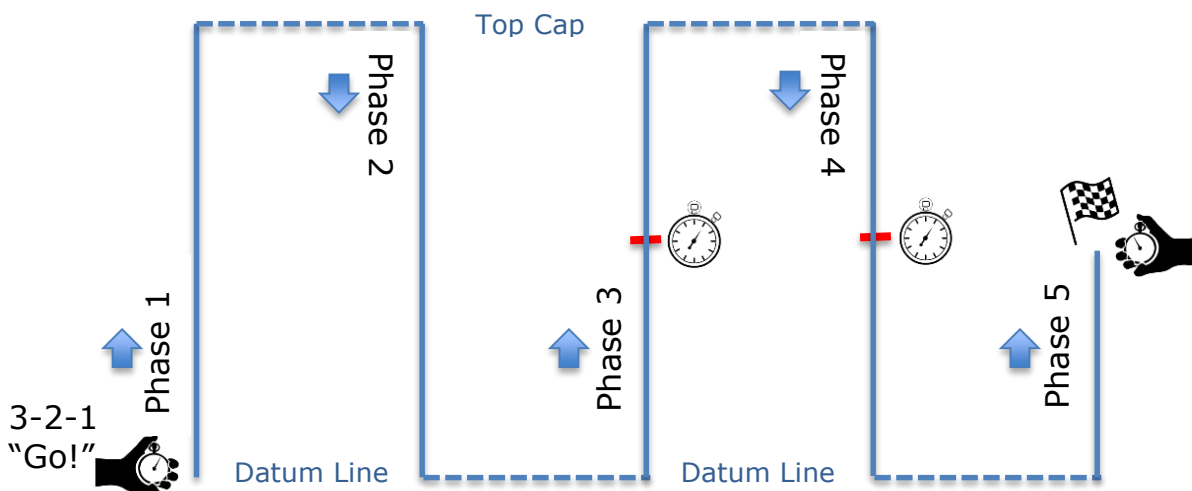

Figure 1: The Five Phases of the Internal Pipe Climbing Challenge.
The two and a half cycles will consist of five phases, as shown in Figure 1 below:
2.5 Each device must have a quick and simple method of attaching and detaching the chain, which should not require the use of tools. It is up to individual teams as to how this is achieved, but any coupling must not cause the device to violate the dimensions shown in Figure 1. Failure of the attachment or loss of the chain will result in disqualification from the heat.